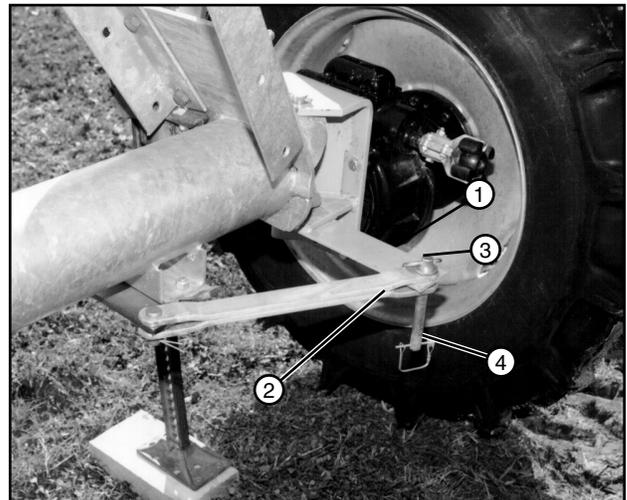

Figure 83-2 1. Steering Arm 2. Tow Link Bar Yoke 3. Torque Pin 4. Lynch Pin
2. Position steering arm in tow link bar yoke, align holes, then attach steering arm to tow link bar with torque pin. Secure torque pin with lynch pin. See Figure 83-2.